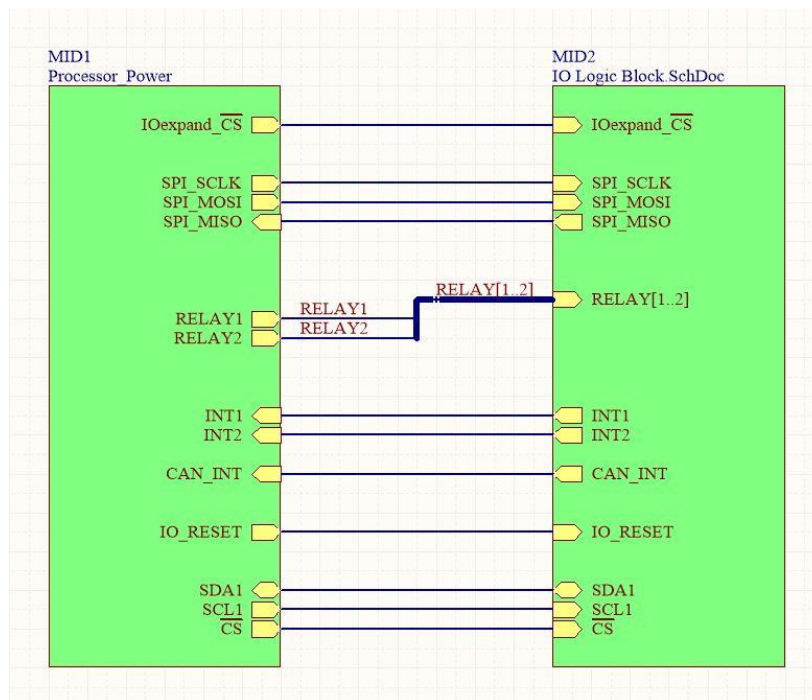

Figure 8. Net Labeled Bus and Bus Connections
- b) Left-click to place the `RELAY[1..2]` net label on the Bus as shown in Figure 8 below.
- f) Left-click to place the `RELAY2` Net Label on the wire extending from the `RELAY2` Sheet Entry. Use Figure 8 as a reference.